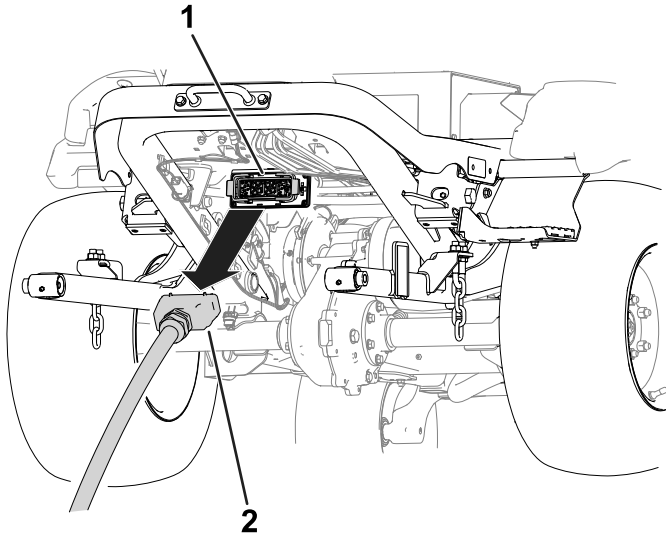

Figure 20
- 5. Disconnect the cutting-unit connector from the machine connector (Figure 20).